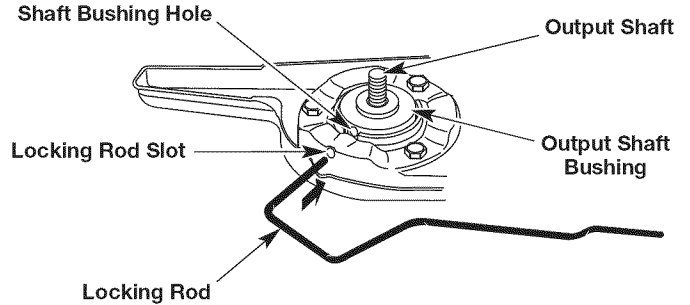

Fig. 16
1. Align the shaft bushing hole with the locking rod slot (Fig. 16). Insert the locking rod into the locking rod slot and shaft bushing hole (Fig. 16).
2. Align the shaft bushing hole with the locking rod slot (Fig. 16). Insert the locking rod into the locking rod slot and shaft bushing hole (Fig. 16).